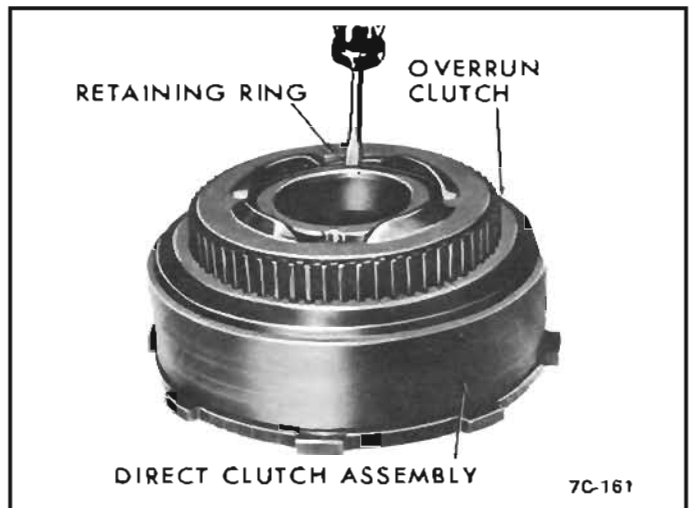

Figure 53 Overrun Clutch Retaining Ring
1. Remove intermediate overrun clutch front retainer ring and retainer. *See Figure 53.*